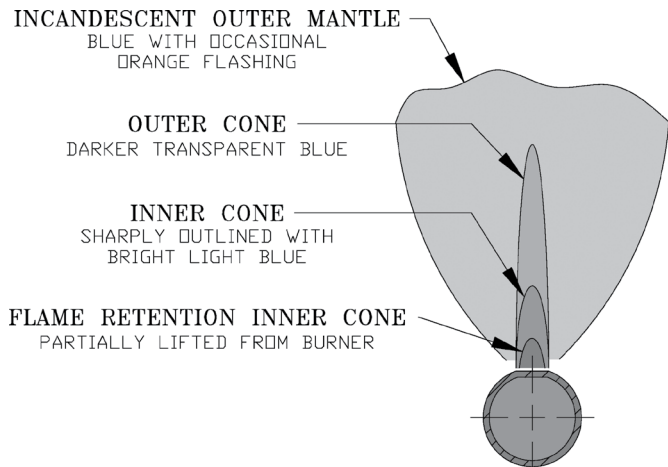

Figure 10-5: Main Burner Flame
9. Check Main Burner Flame (see Figure 10-5).